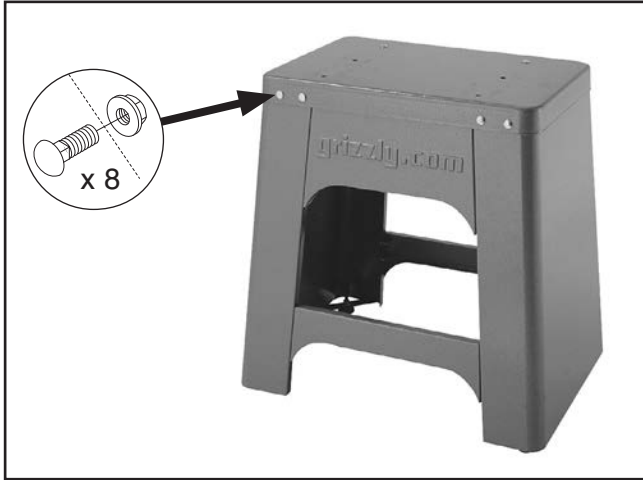

Figure 11. Stand top attached.
- Turn the stand assembly upright and attach the top, as shown in **Figure 11**, with (8) M8-1.25 x 16 carriage bolts and (8) M8-1.25 flange nuts.